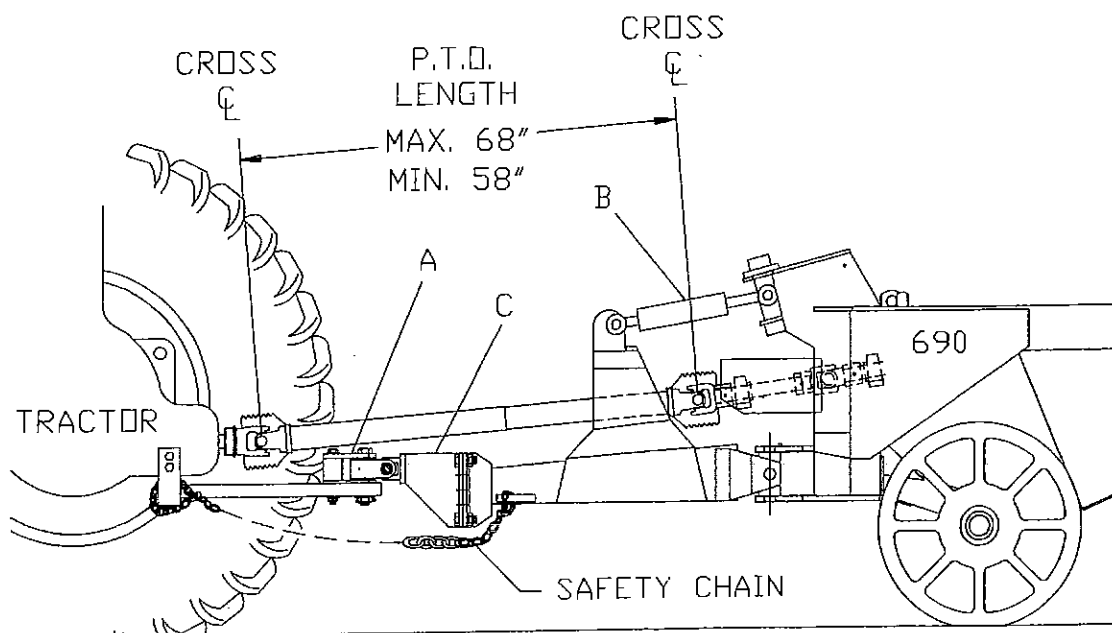

FIGURE 2 - HITCHING TO TRACTOR
- Proper PTO installation (see Figure 2).
Position tractor near harvester hitch, attach lift cylinder hoses to the tractor outlets, activate cylinder and lift harvester hitch above tractor hitch (see Figure 2).
PTOs. The driveline when hooked to tractor should measure between 58" and 68" between centers of universal crosses (see Figure 2).
Cycle lift cylinder (B) (See Figure 2), observe lift height. Reposition front bolt-on hitch (C) to obtain desired lift height.
2. Attach safety chain from tractor to tongue of harvester (see figure 2, page 8).
Be sure tractor drawbar is set so that PTO driveline runs at the length specified (see Figure 2, page 8).